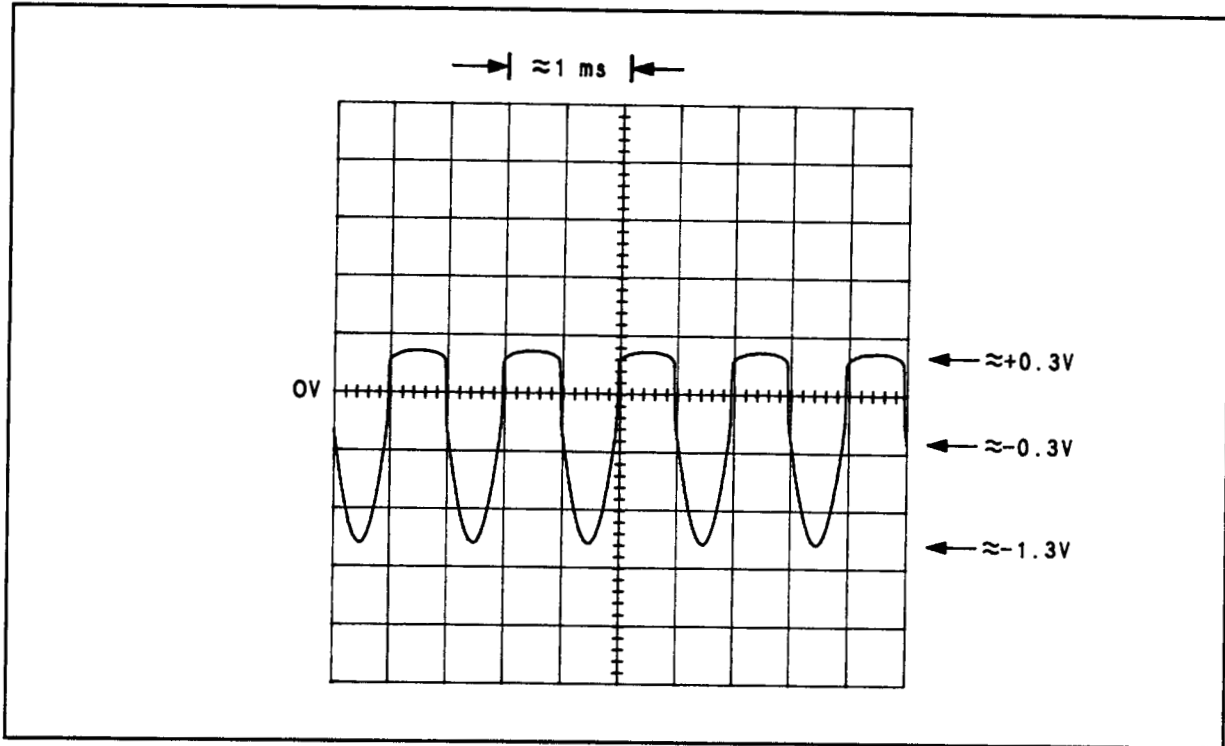

*Figure 8F-20. Waveform for  $\sqrt{2}$  Step 8*
8. Connect a high-impedance, dc coupled oscilloscope to A5TP7. The waveform should be as in Figure 8F-20.